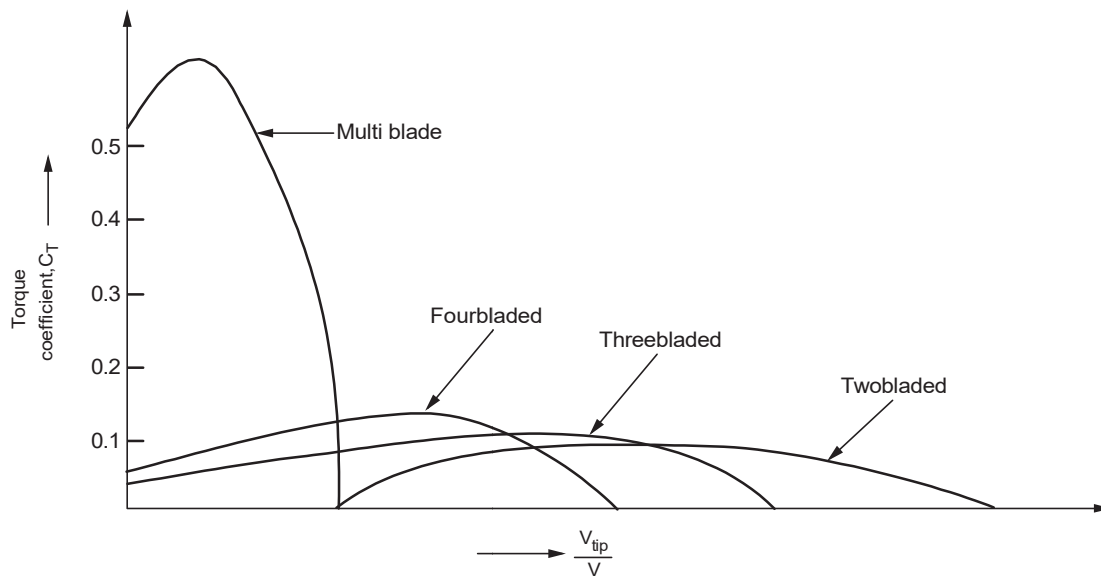

Fig. 3.11.2
- Fig. 3.11.2 shows the pitch-regulated turbine is represented by the curve.